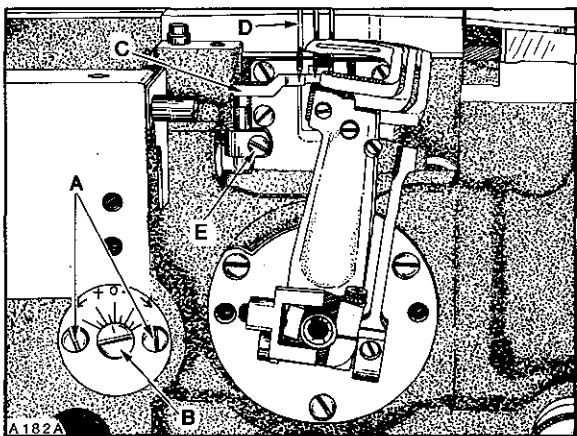
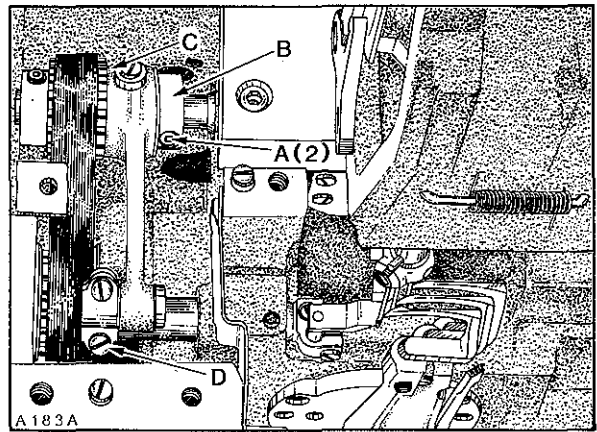

Fig.13
Fig.14
Machine is equipped with a quick adjustable looper avoid mechanism to accommodate extreme differences in needle sizes. As the looper travels from left to right with needle bar descending, the needle points should contact ONLY the lower THIRD of the back of looper blades. If looper avoid requires re-setting, loosen two screws (A, Fig. 13) and turn eccentric stud (B) towards the plus side (counterclockwise) for MORE looper avoid or towards the minus side (clockwise) for LESS looper avoid. When desired setting is acquired, tighten screws (A).
Rotate handwheel in operating direction to position looper points at the RIGHT hand side of needles. At this time the needle guard (C, Fig. 13) should be at its EXTREME END of FORWARD travel. Adjustment can be made by loosening two screws (A, Fig. 14) and turn needle guard eccentric (B) slightly as required until this condition exists. Ensure .002 inch (.051mm) clearance between needle guard eccentric (B) and looper drive sprocket (C) while tightening screws (A) securely.
At extreme forward end of travel, rear needle guard (C, Fig. 13) must be set horizontally not to contact needles (D) with a **MAXIMUM** clearance of .002 inch (.051mm). Guard should be set as low as possible, yet have its vertical face approach approximately 3/64 inch (1.2mm) of needle points until point of loopers moving to the left, are even with the right side of needles. Adjustment can be made by loosening screw (E), reposition needle guard as required and retighten screw.
If additional front to rear adjustment is required to maintain needle guard in a horizontal position, loosen screw (D, Fig. 14) in pivot link which allows needle guard shaft to be rotated. Be sure to take up thrust, by exerting pressure against needle guard holder to the left and pivot link to the right, when tightening screw (D).